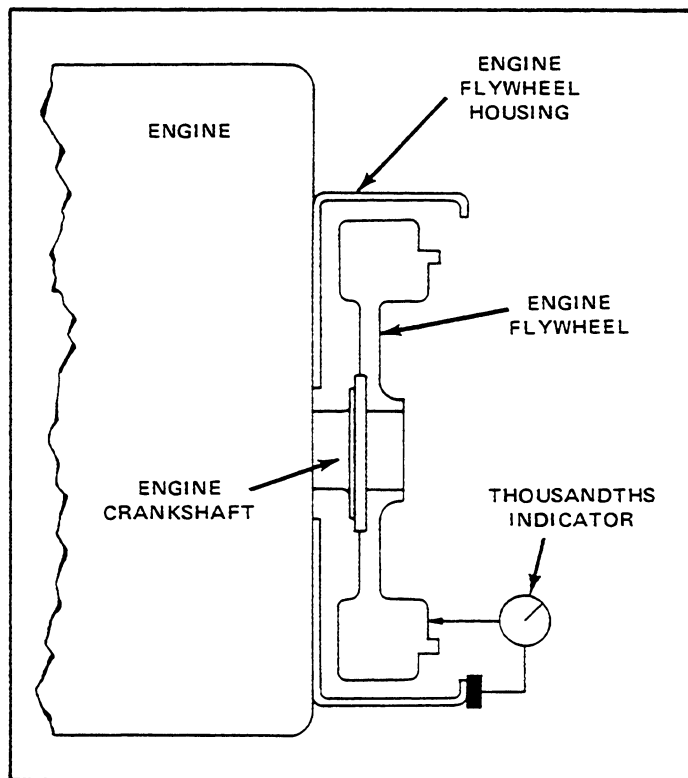

Figure 9-13. Checking the Driving Ring Surface of Engine Flywheel.
5. Bolt a thousandths dial indicator or gauge to the engine flywheel housing so that the indicator is perpendicular to the engine flywheel, and the indicator stem is riding on the inner face of the flywheel. See Figure 9-13. Rotate the flywheel. The variation of the face runout of the surface to which the driving ring is bolted should not exceed 0.0005 per inch of diameter.